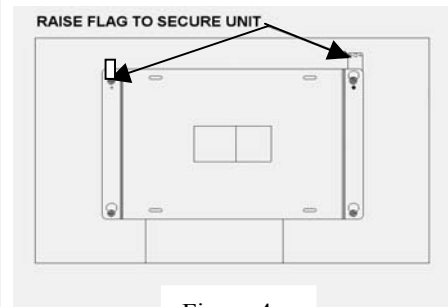

Figure 4
5. With the aid of another person, lift the plasma display up to the mount, align the mounting buttons on the plasma with the teardrop slots in the mount, and set the plasma into place (see figure 4).
6. Position (raise) the flags to secure the plasma (See Figure 4).